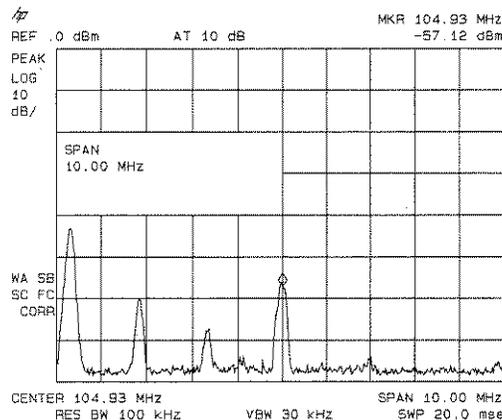

Figure 3-16. Low-Level Signal
5. Reduce the span to 10 MHz. Press **(SPAN)**, and then use the step-down key (**⇩**). See Figure 3-16.